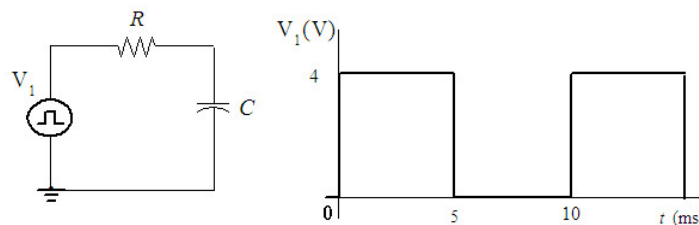

Figure 1 RC circuit with square wave input.
2. The circuit of Figure 1 is excited by a square wave voltage of 4 V (peak or zero to peak) having a frequency of 100 Hz. In PSpice, use **VPULSE** to create this voltage waveform by setting V1 to 0 and V2 to 4. For additional information on 'pulse' waveform, refer to page 100 and 101 of PSpice supplement. Use a pulse width of 5 ms. (What is the pulse period here?) Use PSpice to determine the transient response (voltage across the capacitor) of the circuit. Limit your transient response plot to one cycle of the source voltage. This may be done by setting the "**Run to time**" parameter in the "**Edit Simulation**" window to be of the same length as the period of the **VPULSE**. Obtain the response for the following two RC combinations: